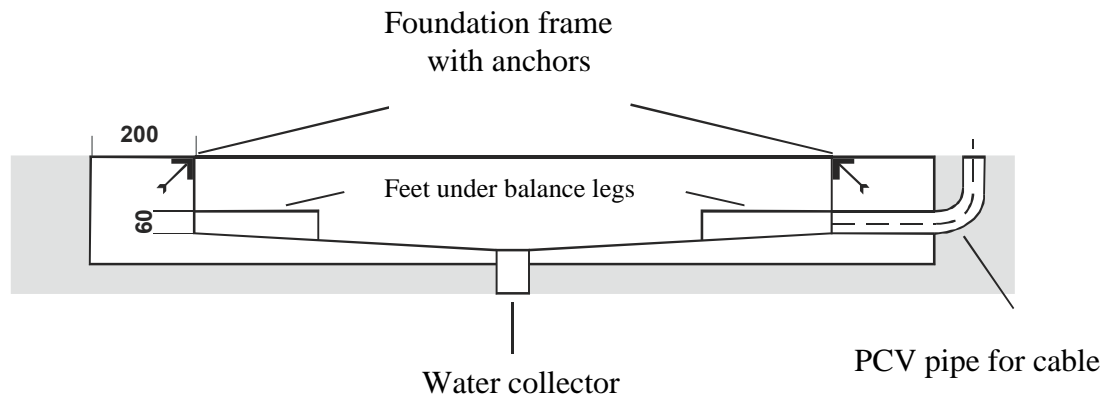

Fig.1 Foundation – crosssection
2. Foundation bottom inclination angle (shown in fig. 1 on page 8) should be at least 3%.
1. Prepare the foundation (7) according to guidelines (section 6) and engineering technique principles.
2. Put the balances base plates (5) freely in the foundation.
3. Place limiters plates (4) on plates (5). Connect both plates with M8 screws (2) so they cannot move in respect to each other, but to allow for limiters (4) manoeuvring.
5. Put the balance structure (1) in the foundation, so legs (7) fit vertically in the limiters (4) holes.
7. Check the upper plate location in the foundation – level in relation to foundation edge and distance from the edges (fig. 1).
8. When needed, shift the plates (5) or put spacers beneath them, made from sheet with dimensions of plate.
9. If the position of upper plate is correct, carefully remove it to not move plates (5). Check if legs (7) are straight.
10. Carefully remove balance structure (1) from foundation to not move plates (5).
11. Fix plates (5) with supplied screws with steel pins.
12. Adjust possible displacements with plates (4) position, so legs are located centrally and vertically in plates (4) holes. Tightly screw plates (5) and (4).
13. Put balance structure (1) in place.